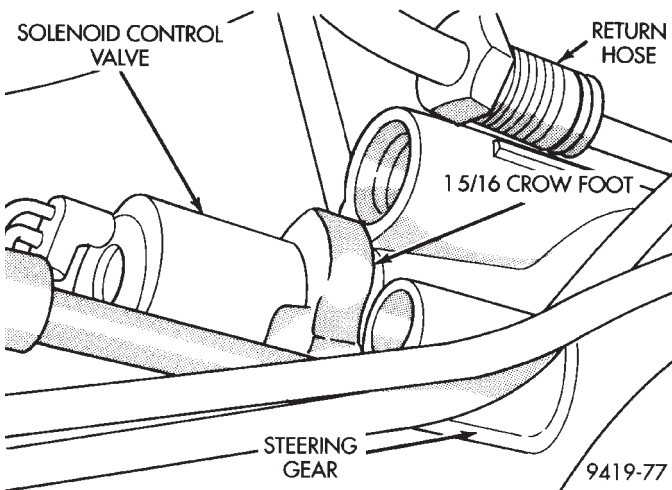

Fig. 10 Loosening Solenoid Control Valve
- (4) Using a 1 5/16 inch crow foot, (Fig. 10) loosen the solenoid control valve. Then by hand, remove the solenoid control valve from the power steering gear.
(10) Remove the left and right lower cowl area trim panels (Fig. 10).